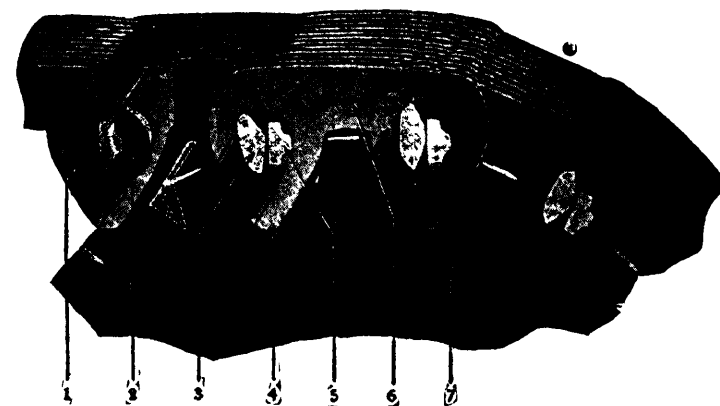

Figure 2
Count the number of links in the chain. If it is made up of an odd number of links one of them is the "hunting link"—see (1), Fig. 2—and the chain may be shortened one pitch by removing this link. Should the chain, however, be made up of an even number of links it will be necessary to take out four links and replace them by three, one of which will be a hunting link.
Count the links and determine how many must be removed, chalk-mark the washers which must be cut, turn the engine until these washers are on a sprocket (preferably the crankshaft sprocket) and with a sharp chisel split the washers. Turn the engine until it is possible to push out the pins (in the case of a Morse chain, first the pins at (5), Fig. 2, and then the rocker pin (3), Fig. 2.
Each joint of the chain contains two pins, see Fig. 2; the ribbed seat pin (5) and plain rocker pin (3). Insert a new rocker pin (3) and a used or an extra pin to align the links. In replacing the pins be sure that rocker pin is inserted as shown in Fig. 2. Turn engine and bring incomplete linkage between the two sprockets. Insert a new seat pin which has a washer riveted to it from the rear or inside edge of the chain, forcing out the seat pin used for alignment. Place a washer over head and rivet.